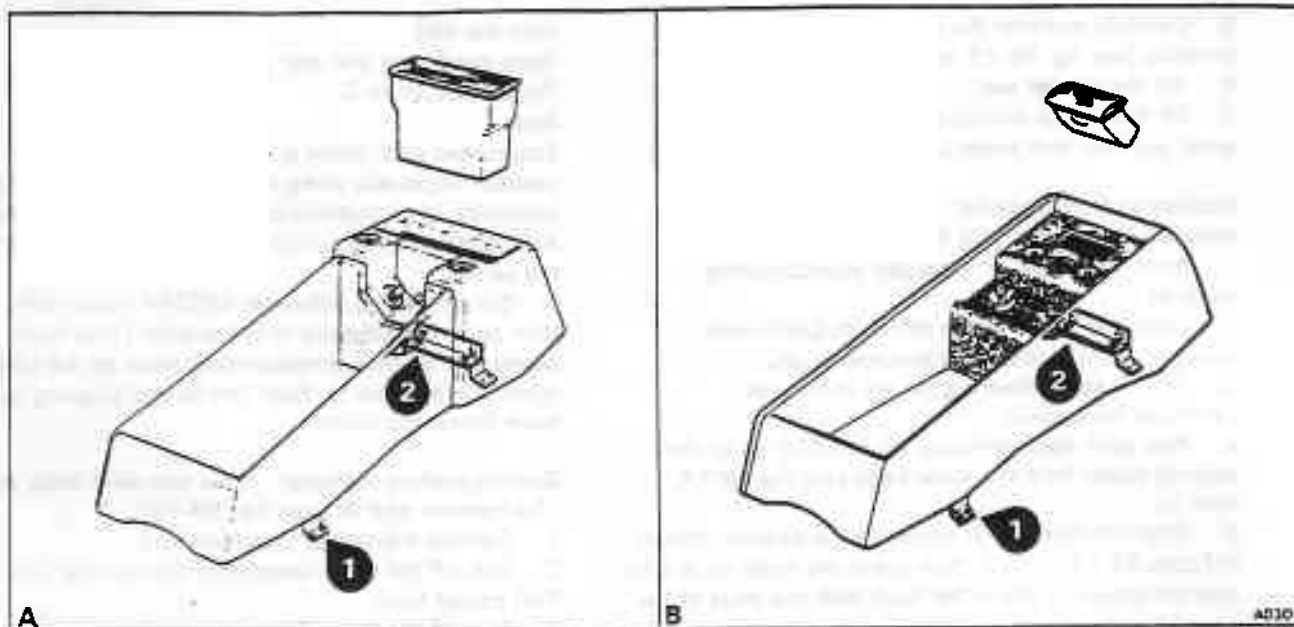

Fig. S8-11 Centre stowage bin
3. Remove the hexagon headed screws from the sides of the stowage bin (see fig. S8-11, item 1).
5. Release the screws securing the front of the stowage bin (see fig. S8-11, item 2).
2. Remove the centre stowage bin (see fig. S8-11).